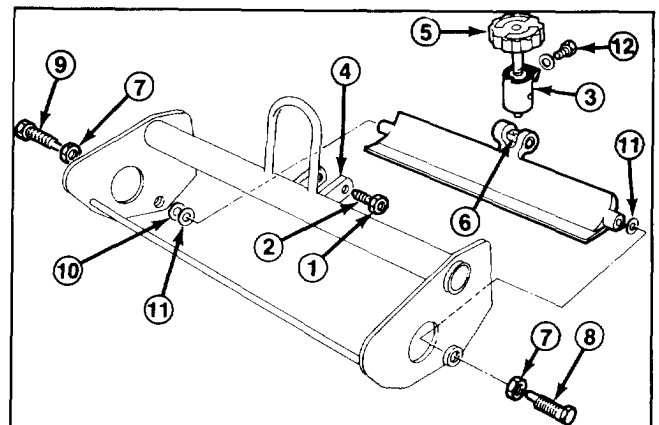

Figure 12
1. Remove spring arm retaining capscrew from pivot assembly. Loosen jam nuts allowing removal of set screws securing bedknife pivot assembly to reel frame supports (Fig. 12).